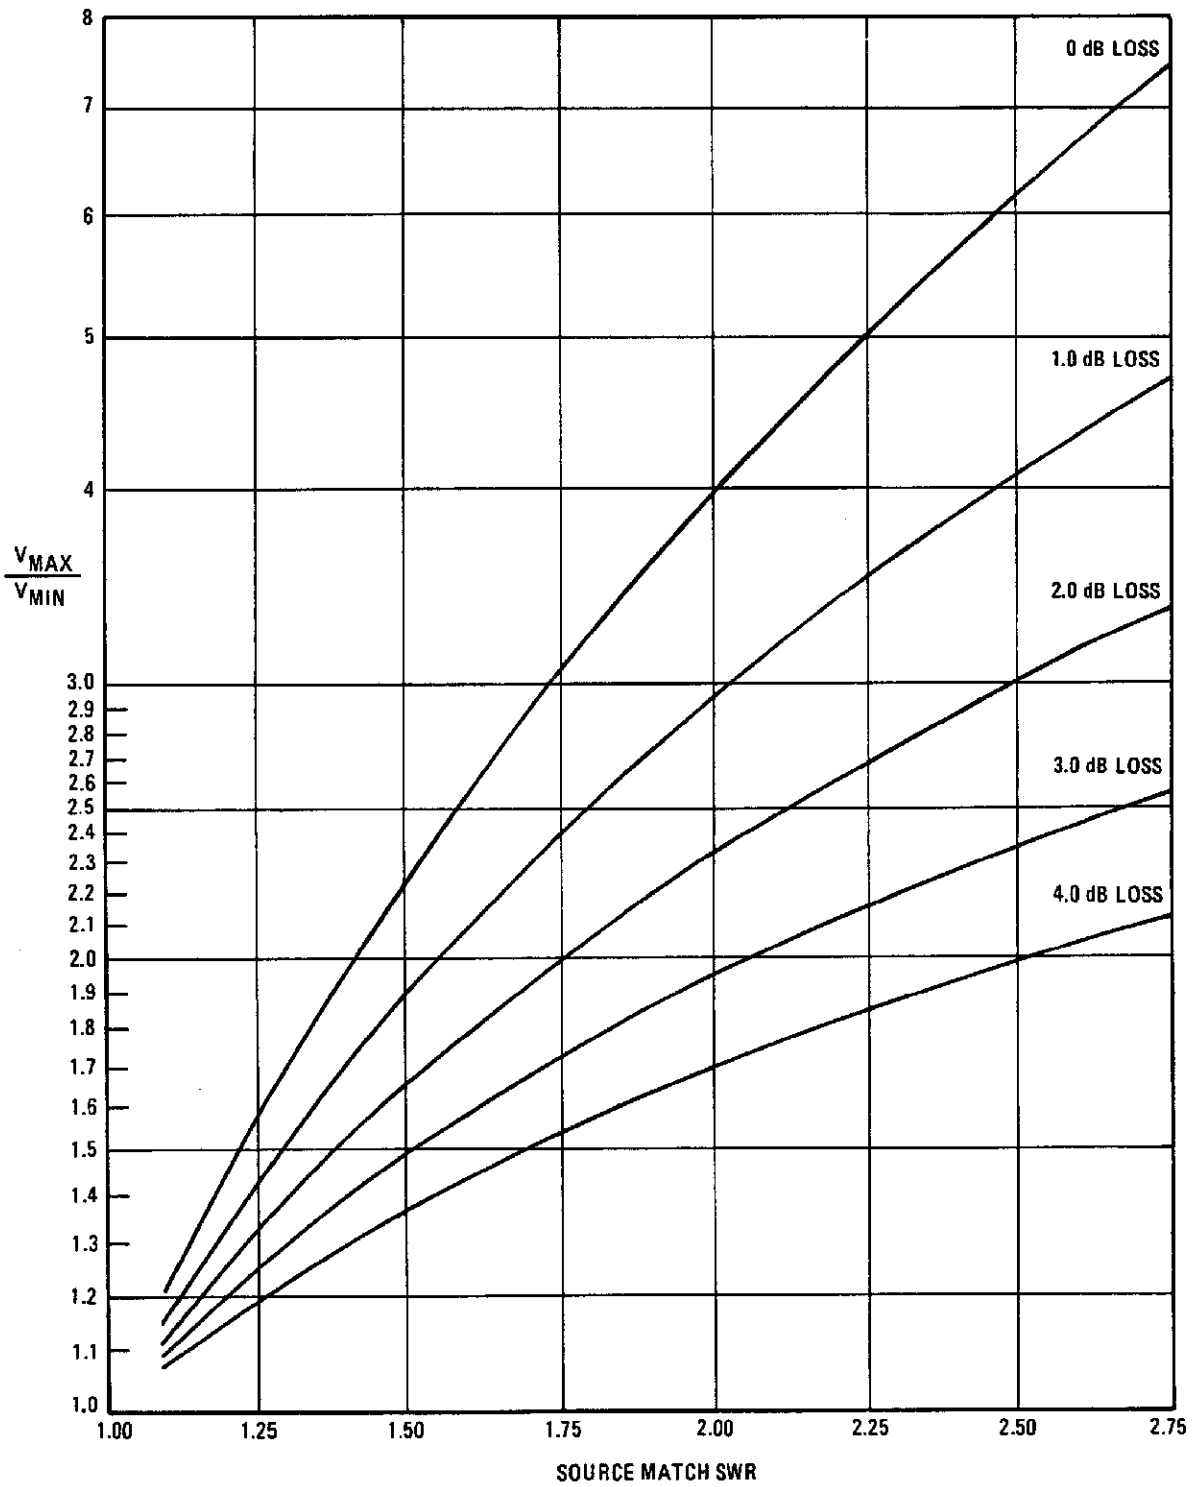

Figure 4-14. Conversion of Oscilloscope Trace to Source Match SWR
6. Convert the  $V_{MAX}/V_{MIN}$  ratio noted in step 4 into source match SWR, using Figure 4-14 and the cable loss calculated in step 5. The SWR should be less than 1.9 (2.1 for Option 002).
11. Convert the greatest V MAX and V MIN ratio noted in step 10 into source match SWR using the 0 dB LOSS line in Figure 4-14. The SWR should be less than 1.9 (2.1 for Option 002).
16. Convert the greatest **V MAX** and **V MIN** ratio noted in step 15 into source match SWR using Figure 4-14 on the 0 dB loss line. Record SWR on test record step 16.